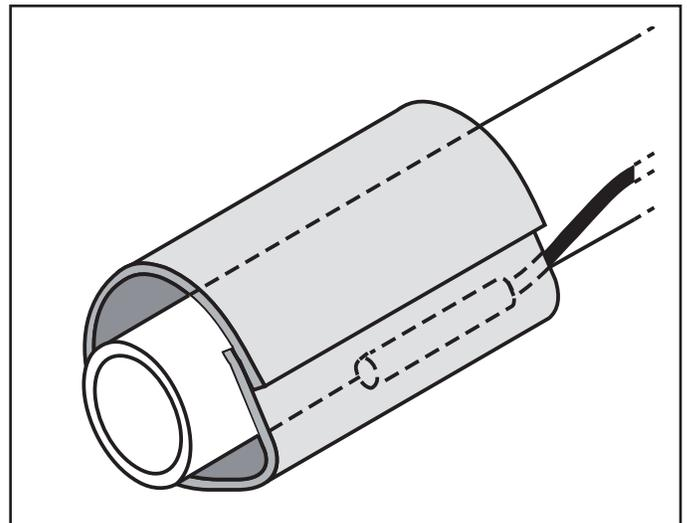

Figure 12. Insulate T2B Sensor
6. Insulate the sensor using the provided insulation. See Figure 12.